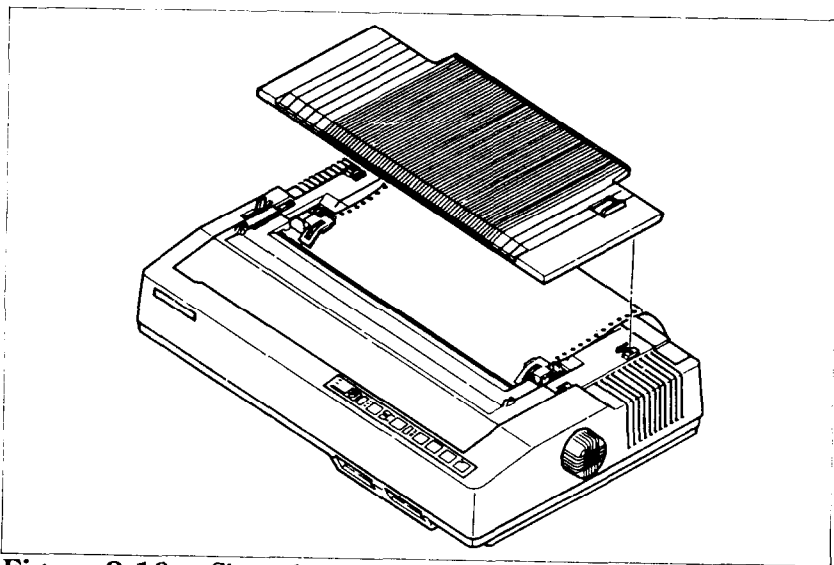
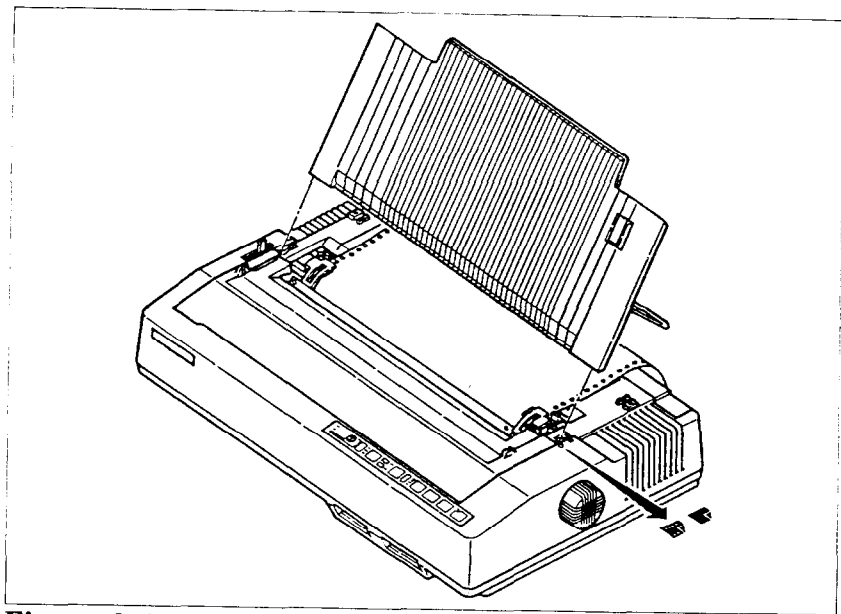

Figure 2-10. Close the sprocket covers when the paper is positioned correctly.
Figure 2-11. Ready to load the sprocket-feed paper. Note the reversed position of the paper guide.
8. Check that the paper is still positioned correctly, and close the sprocket covers (Figure 2-10).
11. Install the paper guide on the printer. See Figures 2-10 and 2-11 for details. When used with sprocket-feed paper, the guide is turned around and laid flat (Figure 2-10) or raise (Figure 2-11) on top of the printer as a paper separator. Make sure that the tabs on the guide fit into their receivers.